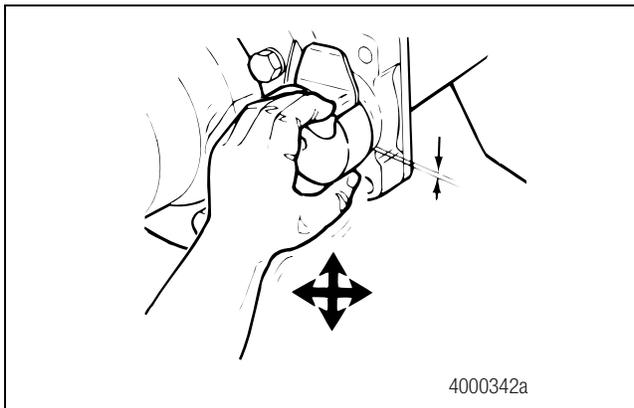

Figure 5.12
9. Determine if the camshaft bushings need replacement by using a dial indicator to check the radial movement of the camshaft. Figure 5.12.